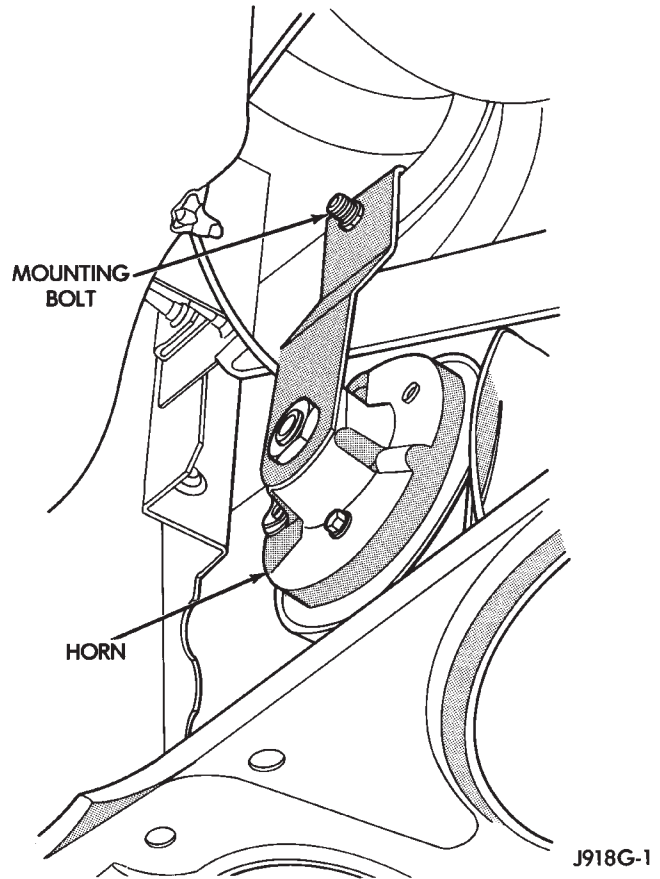

Fig. 2 Horns Remove/Install
- (4) Remove the horn mounting bracket screw and lower the horn and mounting bracket unit far enough to access the wire harness connector (Fig. 2).
- (5) Unplug the wire harness connector from the horn.
- (6) Remove the horn and mounting bracket from the vehicle.
- (7) Reverse the removal procedures to install. Tighten the horn mounting bracket screw to 28.5